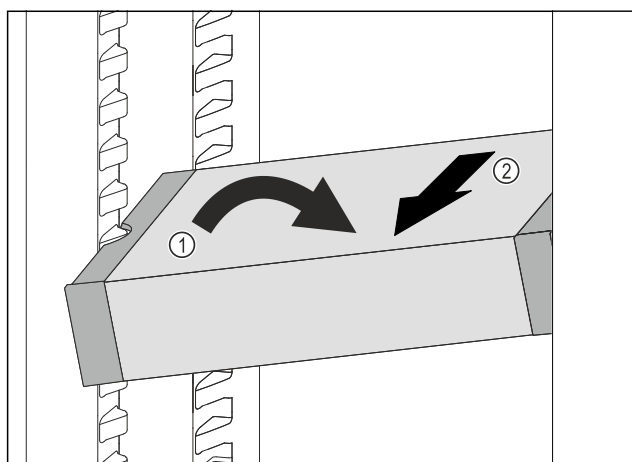

Fig. 110
- Set VarioSafe in refrigerator compartment at an angle. Fig. 110 (1)
- Take VarioSafe out to the front. Fig. 110 (2)